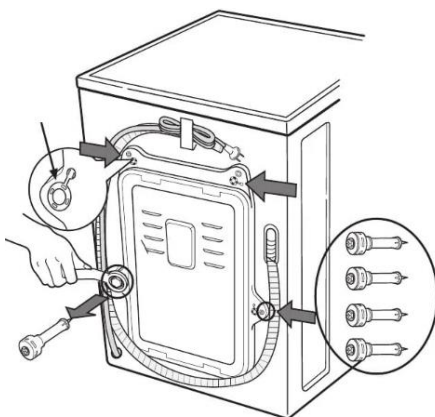

Fig. 2
1. In order to avoid internal damage during transportation, 4 bolts are installed on the device. Before using the washing machine, remove these bolts (see Fig. 2)
- 2. Using a wrench (included in the package), loosen the 4 bolts (see Figure 2)